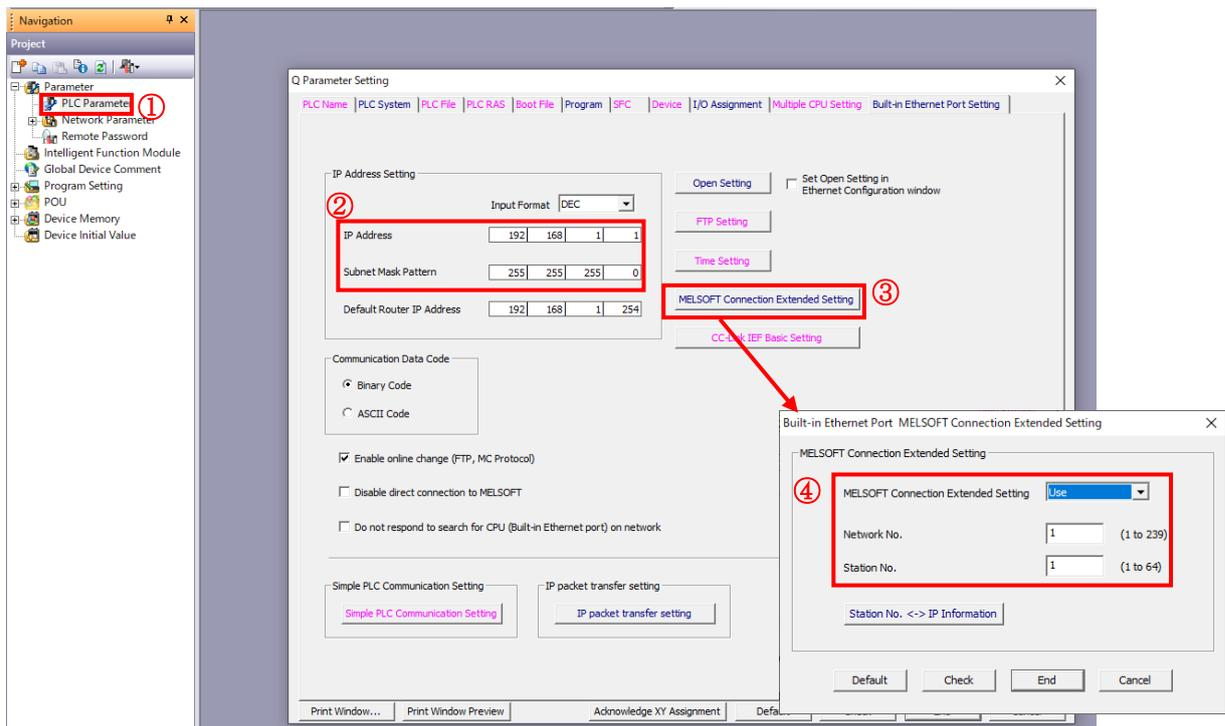

Figure 4-2 Built-in Ethernet module parameter setting (main PLCs)
① to ④ in Figure 4-2 show the setting steps of the built-in Ethernet module.
- ① After connecting the PLC, click "PLC Parameter" on the navigation tree menu.
- ② Enter the IP address and subnet mask on the Q Parameter Setting screen.
- ③ Open MELSOFT Connection Extended Setting.
- ④ Select "MELSOFT Connection Extended Setting: Use" and enter the network number and station number.